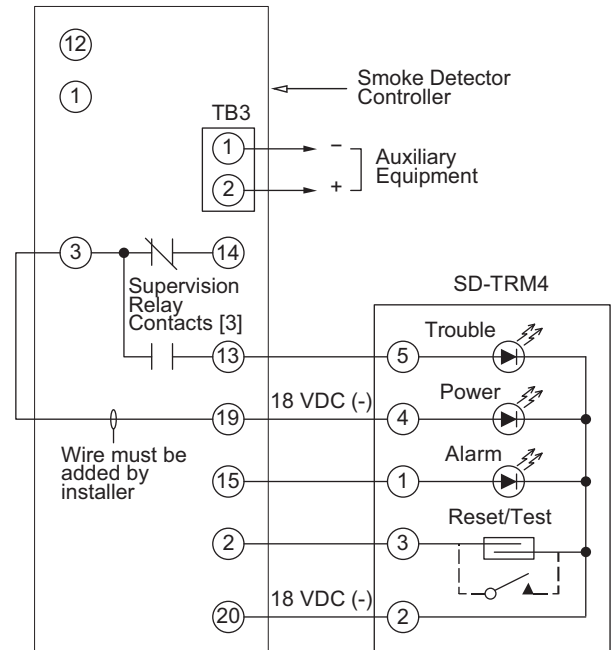

Fig. 48 — Remote Test/Reset Station Connections
The test/reset station dirty sensor test checks the test/reset station's ability to initiate a sensor dirty test and indicate the results. It must be wired to the controller as shown in Fig. 48 and configured to operate the controller's supervision relay. For more information, see "Dirty Sensor Test" on page 35.
1. Verify that the remote test/station is wired as shown in Fig. 48. Repair or replace loose or missing wiring.